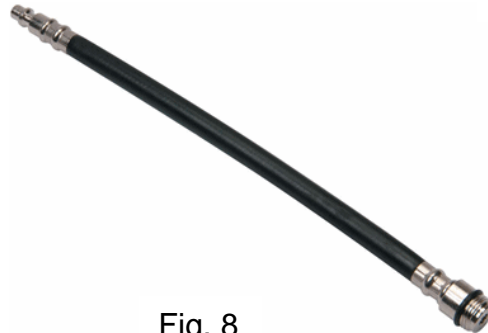

Fig. 8
- Connect the high pressure flexible tube of the tester to the adaptor (Fig. 8).